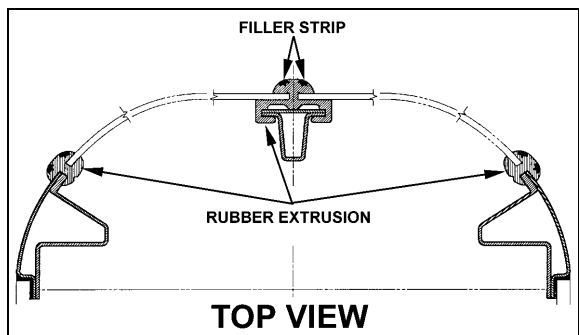

FIGURE 41: WINDSHIELD INSTALLATION TOP VIEW
2. Insert rope into rubber extrusion leaving enough length at each corner to make a loop. Spray soapy water onto rope and rubber extrusion (Fig. 41).